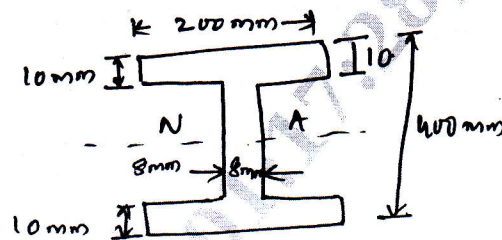

Fig.Q4(b)
- b. The cross-section of a beam is shown in Fig.Q4(b), if permissible stress is 150 N/mm^2 , find its moment of resistance. Compare it with equivalent section of the same area for a square section.